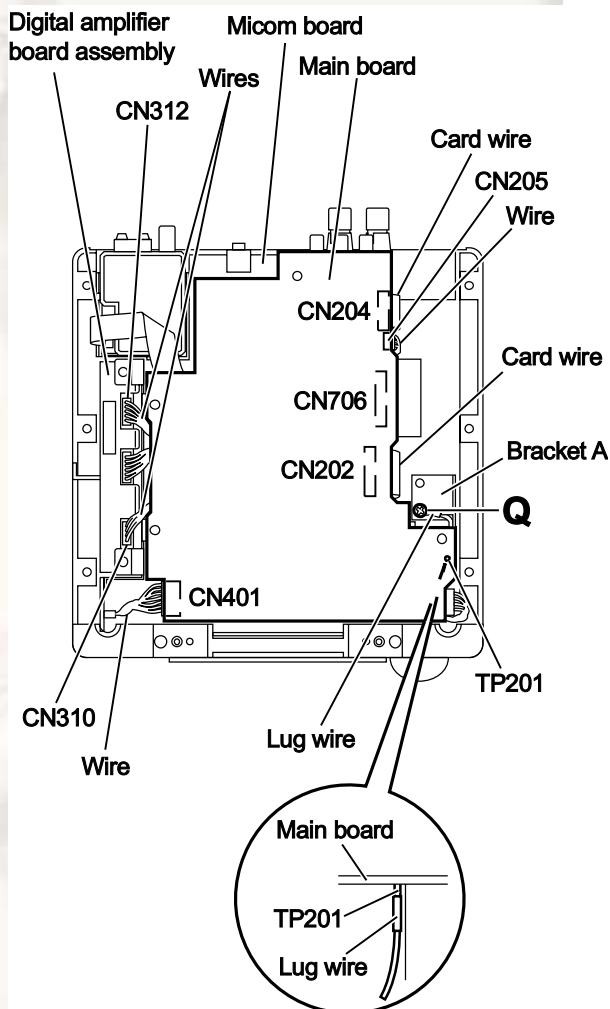

Fig.14
(See Figs.14 and 15)
- (1) From the top side of the main body, disconnect the card wires from the connectors (CN202 and CN204) on the main board. (See Fig.14.)
- (2) Disconnect the wires from the connectors (CN205 and CN401) on the main board. (See Fig.14.)
- (3) Disconnect the wire from the connector CN706 on the micom board. (See Fig.14.)
- (4) Disconnect the wires from the connectors (CN310 and CN312) on the digital amplifier board assembly. (See Fig.14.)
- (5) Remove the screw **Q** attaching the lug wire to the bracket A. (See Fig.14.)
- (6) Disconnect the lug wire from TP201 on the main board. (See Fig.14.)